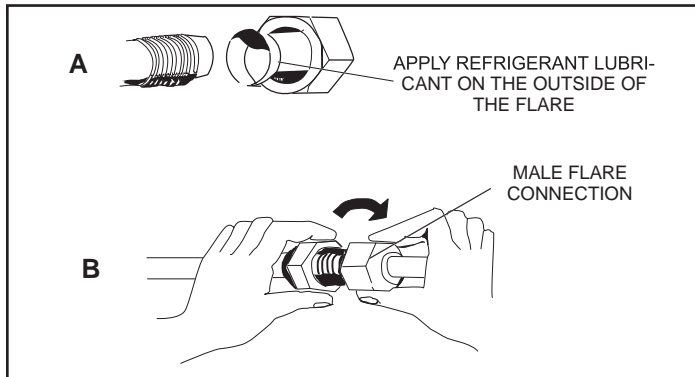

Figure 8. Making Connections at Indoor Unit (Male to Female Connection)
6. Apply recommended HFC-410A refrigerant lubricant to the outside of the flared refrigerant lines (figure 8-A).
- Align the threaded connections with the flared refrigerant lines. Tighten the flare nuts lightly at first to obtain a smooth match (figure 8-B).